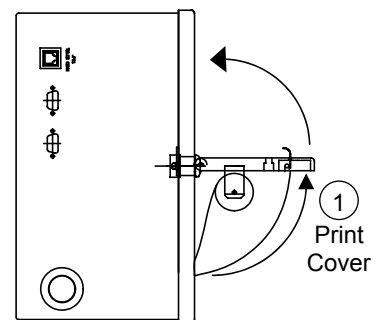

Fig. A-1: Print Cover (Side View)
1. Lift printer cover (see Figure A-1).